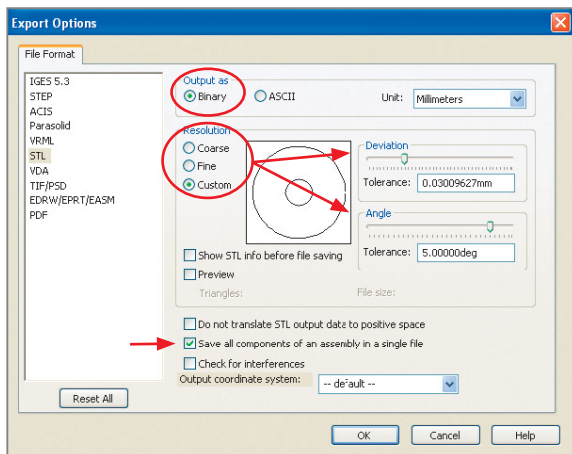

Figure 8. Export Options dialog box
4. In the *Export Options* dialog box (see Figure 8), in the “Output as” section, select **Binary**. (The resulting file size will be much smaller than a file saved in ASCII format.)
If the *Preview* check box is selected, the object is displayed in the dialog box, as shown in Figure 8.